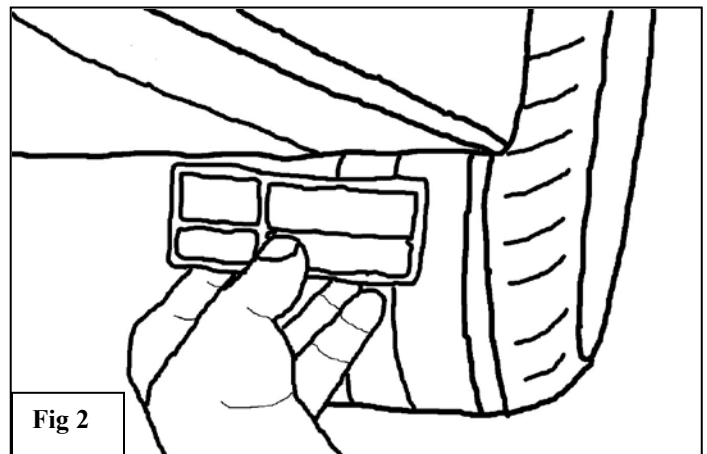

Fig 2
1. Using a 13mm socket, remove & discard OEM Hex bolts from all bracket positions underneath vehicle and plastic wind deflector in front of rear tire. (New bolts are provided) (Fig 2)